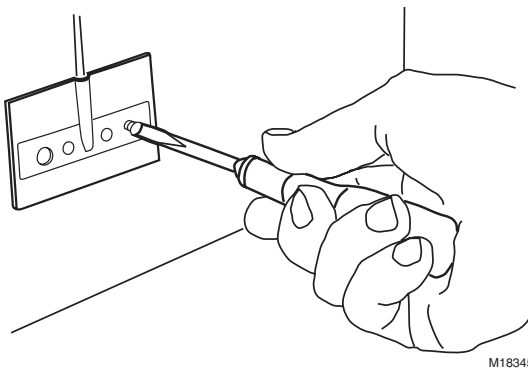

Fig. 11. Fastening the bulb holder to the duct wall.
7. Use screws to fasten the bulb holder to the duct wall. See Fig. 11.